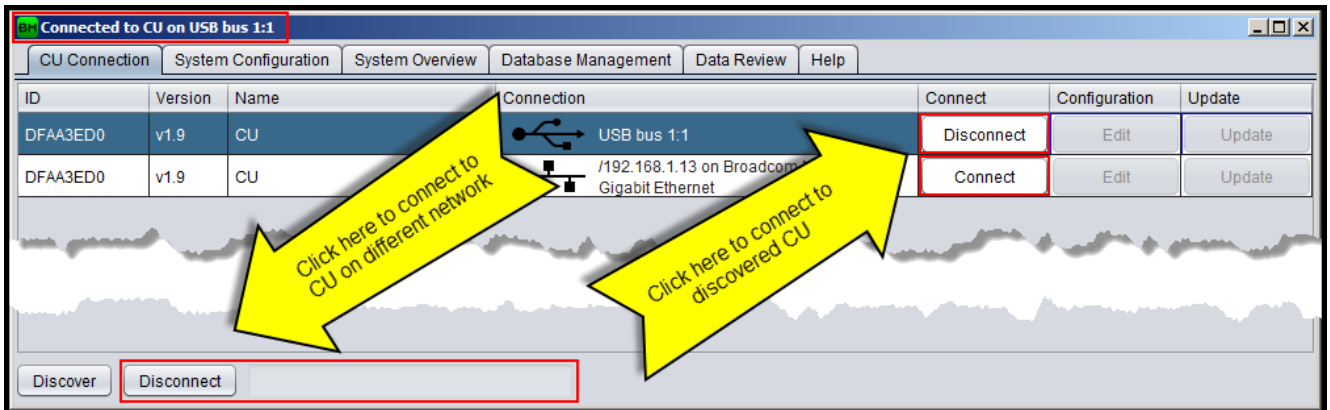

Figure 27: CU connection
- Connect to the CU pressing the “**Connect**” button. Once connected the windows title and icon changes as shown on Figure 27. Ethernet discovery only works if the CU and the PC are on the same LAN. In case the CU is not discoverable because not on the same LAN, the user must write the public address or name on the field on the page bottom and click on the “**Connect to:**” button.